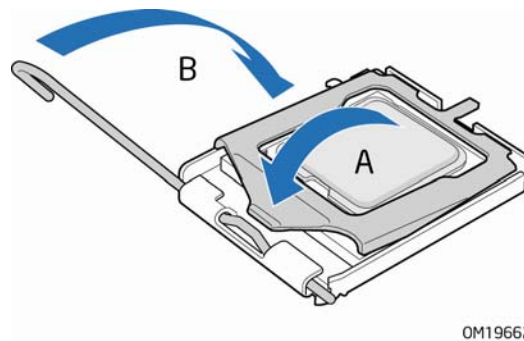

Figure 11. Close the Load Plate
7. Pressing down on the load plate (Figure 11, A) close and engage the socket lever (Figure 11, B).